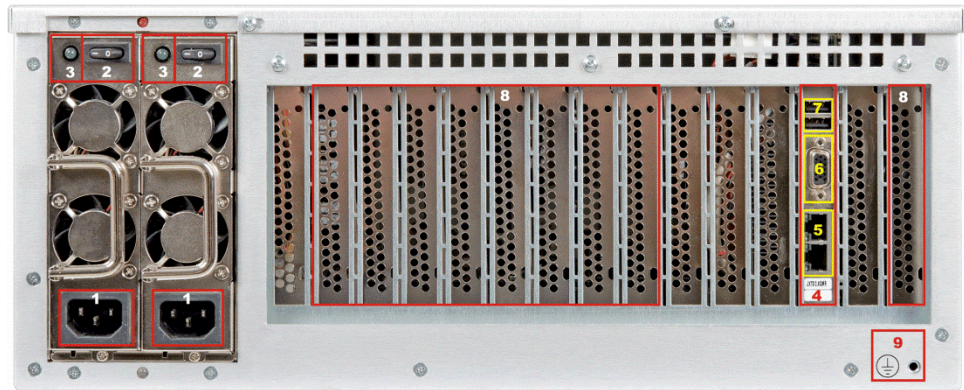
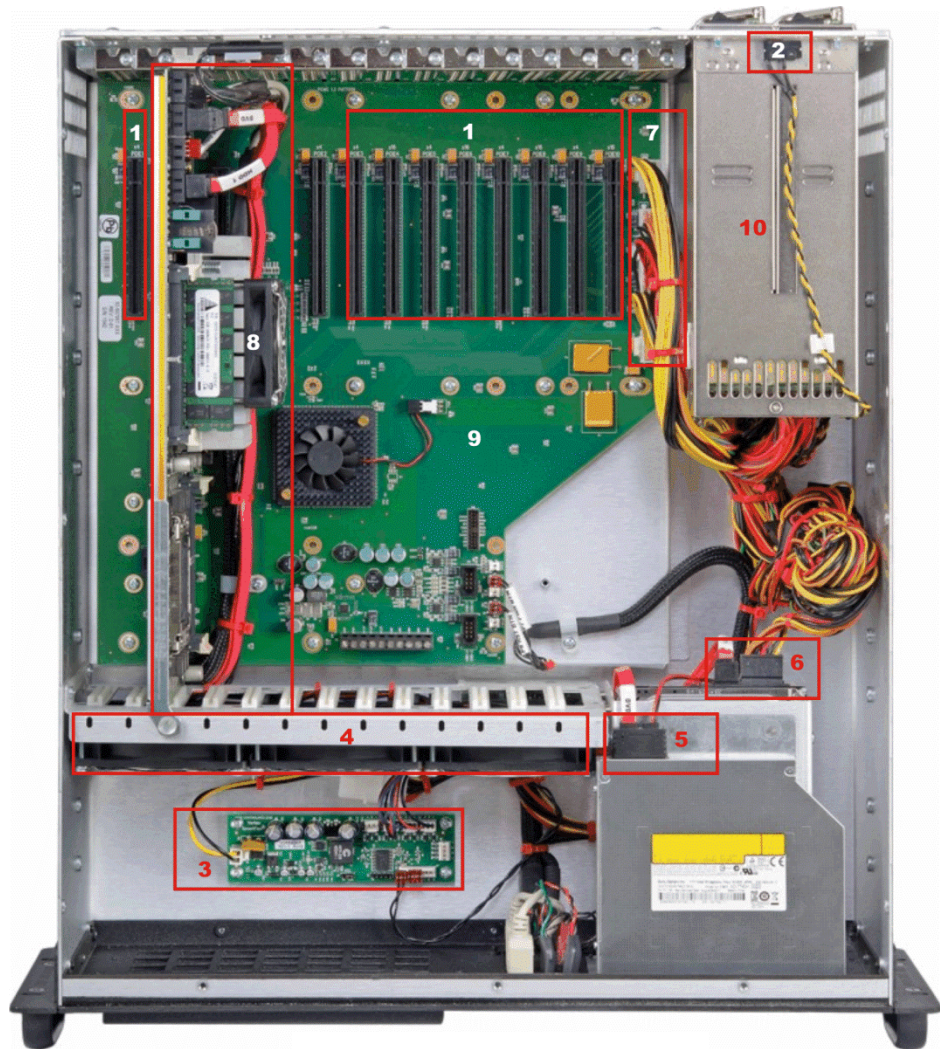
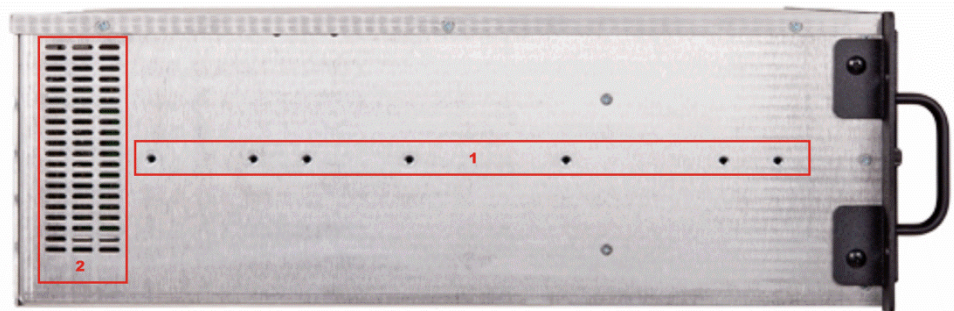

Figure 2a - TVC4403 Rear View
Figure 3 - TVC4403 Inside View
Figure 4 - TVC4403 Side View
Figure 3 shows the interior of the TVC4403 and will be a useful reference when installing video controller boards such as the Matrox Mura MPX-4/4. Figure 4 illustrates the slide rail mounting holes.
Remove the TVC4403 top cover and the card hold-down bar that extends across the controller. Refer to Figure 2a and determine which available TVC4403 slot locations are to be used for the Matrox Mura MPX cards. Remove the TVC4403's blank I/O plates from the chassis which are associated with these slot locations before attempting card installation. Ensure that the screws used for the blank I/O plates are retained because they will be needed to secure the cards at the end of the installation procedure.
Choose any available BPG7087 backplane slot as illustrated in Figure 2a and Figure 3 and install the Matrox Mura MPX card by sliding the card straight down into the backplane's option card slot. You'll feel a slight bump as you apply slight downward pressure to fully seat the card into the card slot. Repeat this process for all of the cards you need for your particular video display wall. Secure the cards to the chassis using the screws that were used previously to hold down the blank I/O plates. Re-install the card hold-down bar and the controller's top cover.
11. If the mounting holes are on the inside portions of your rackmount supports, then mount each assembly directly to the rack supports as shown in figure 4-A.
13. Attach the optional brackets to the rack slides as shown in figure 4-B and attach the completed assembly to the rack supports.